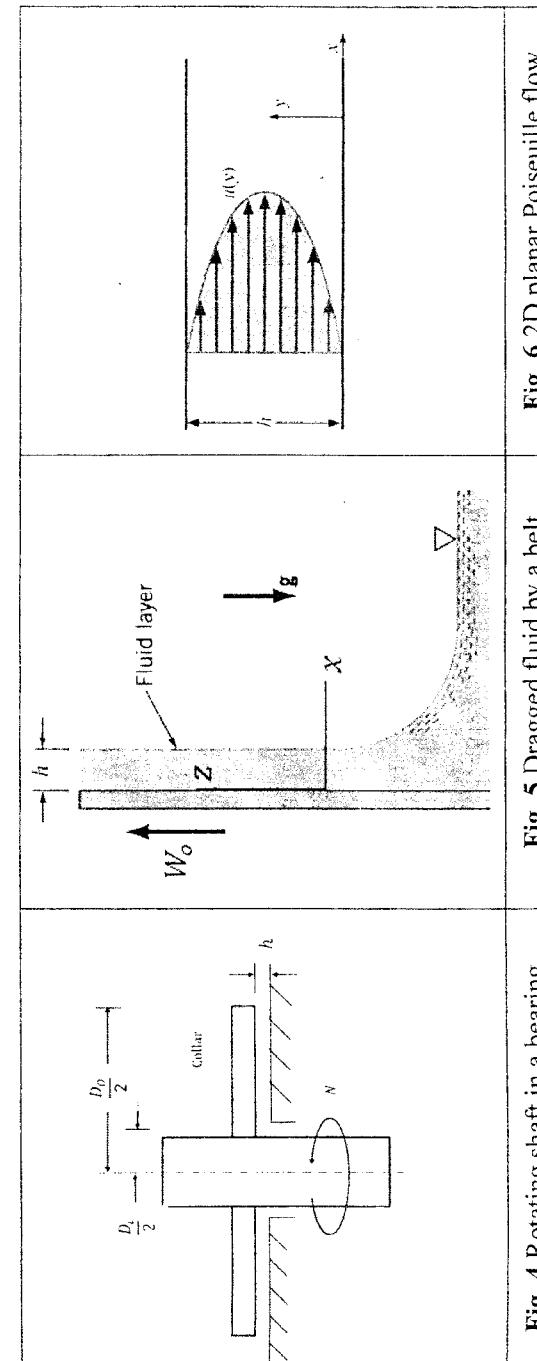

Fig. 5 Dragged fluid by a belt
1. A wide moving belt passes through a container of a viscous liquid. The belt moves vertically upward with a constant velocity W_0 , as illustrated in Fig. 5. Because of viscous forces the belt picks up a film of fluid of thickness h . Gravity tends to make the fluid drain down the belt. Use the Navier-Stokes equations to determine an expression for the followings: